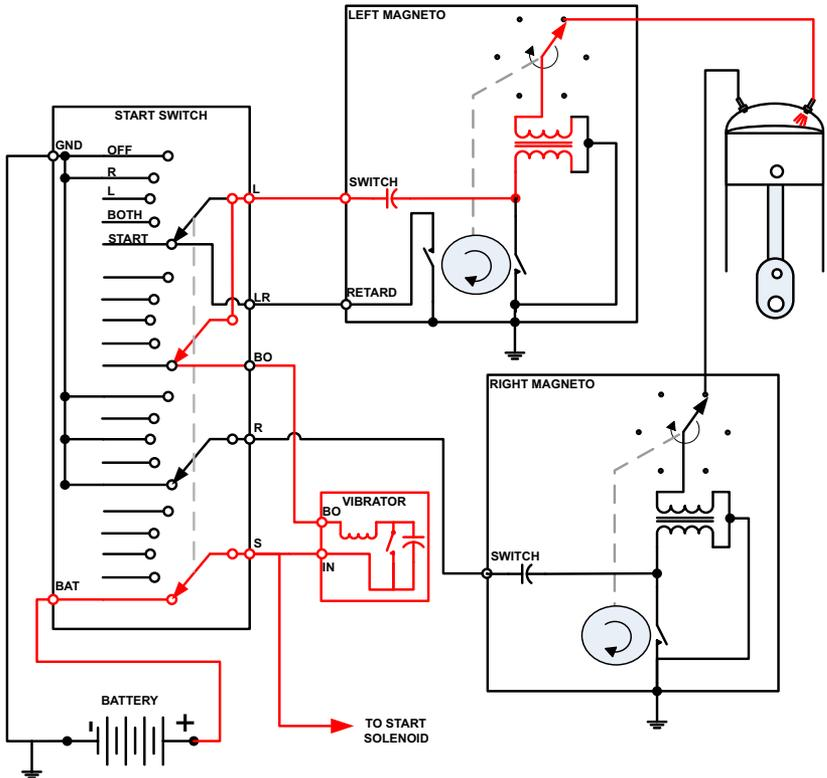

Figure 4. Both Contacts Open
- When the crankshaft reaches the piston TOP CENTER position in Figure 4, the retard contacts open and remove the ground from both contacts. Vibrator pulses pass through the primary winding of the "L" magneto and induce high voltage in the secondary winding. The high voltage transmits through the distributor to the spark plug. The left magneto will continue to supply retard spark as long as the switch remains in the "START" position.